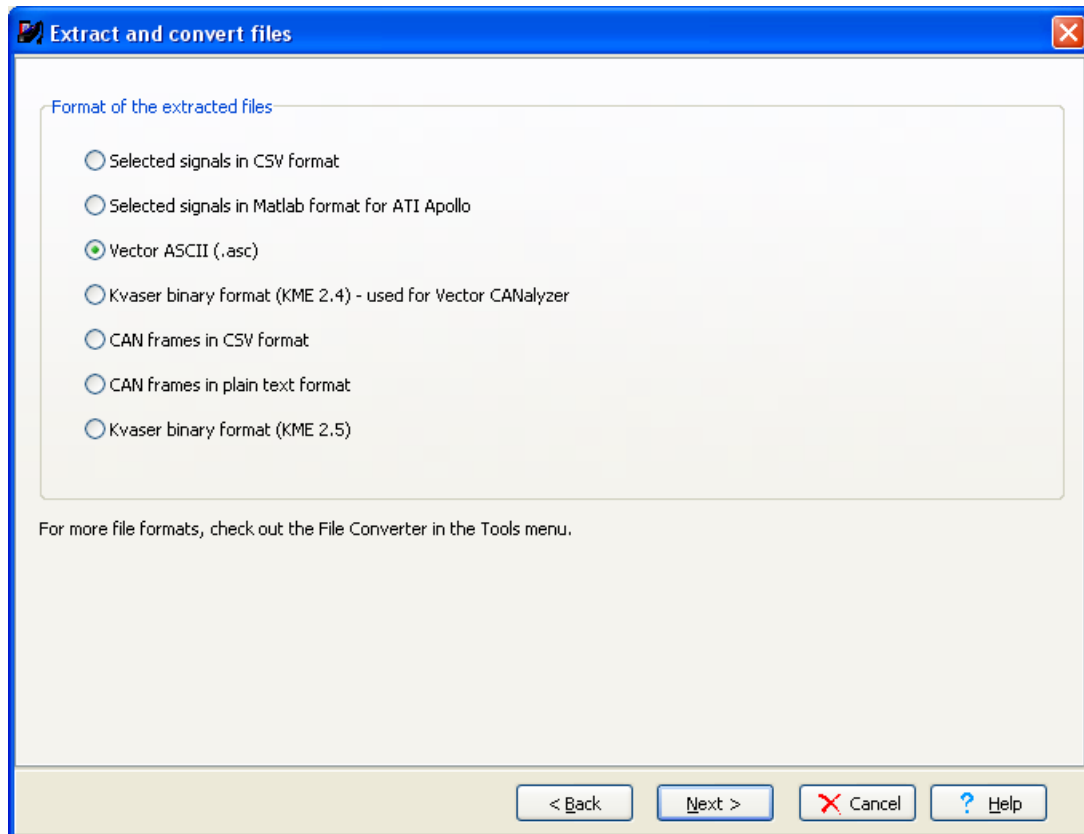

Figure 24. Choose format.
- Check the *Vector ASCII format* box. This makes it possible to use the files in CANalyzer. See Figure 24.